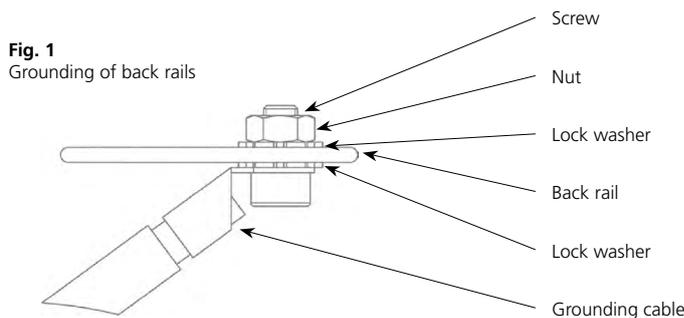

Fig. 2
- The full length of the SMART clamps must be in contact with the permitted mounting zone of the back rails (marked in gray in figure 2) and need to be fastened with a torque of 20 Nm. The permitted mounting zone comprises the full length of the mounting lip of a back rail with the exclusion of the first 6 cm, measured from the outer end. The permitted mounting zone therefore covers the region between 264 mm and 633 mm as measured from the outer glass edge (see figure 3).
- The optimal position of the SMART clamps is located in the middle of each mounting lip of the back rail and it is recommended for mounting by AVANCIS (figure 2). This provides the maximum stability against mechanical stresses. If there is a deviation from the middle position, the German general building approval Z-70.1-224 has to be considered regarding the resilience (at least in Germany). Further information can be obtained from AVANCIS or the DIBt (Deutsches Institut für Bautechnik).